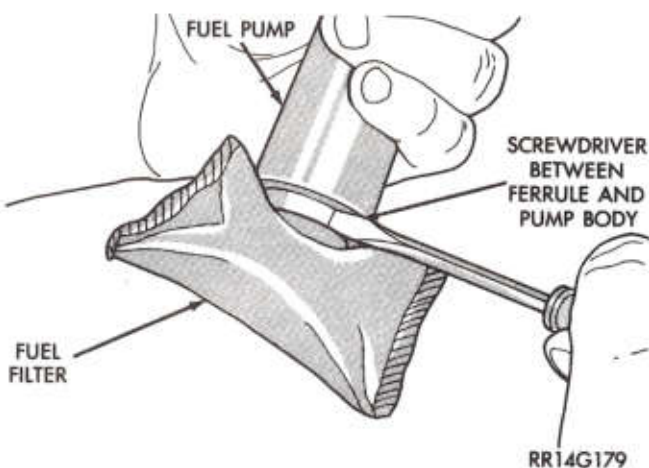

Fig. 10—Servicing Fuel Filter
(7) If pump is operational but the filter requires replacement, gently "walk" a broad bladed screwdriver around the filter mounting ferrule to remove filter (Fig. 10). Care should be taken to avoid damage to the pump inlet. If pump is not operational, discard entire assembly. Do not reuse filter.